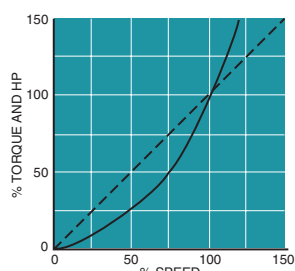

Figure 22. Squared Exponential Horsepower
3. Squared Exponential Horsepower (Figure 22)